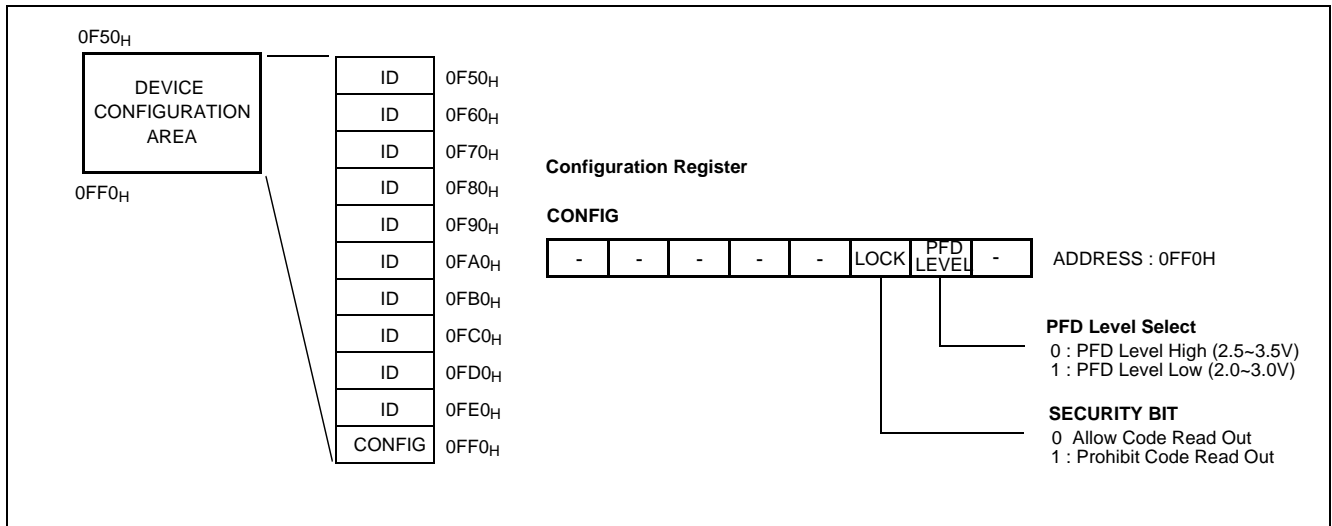

Figure 21-1 Device Configuration Area
**Note:** Power fail detect level is decided by setting the bit PFDLEVEL of CONFIG register (refer to Figure 21-1).